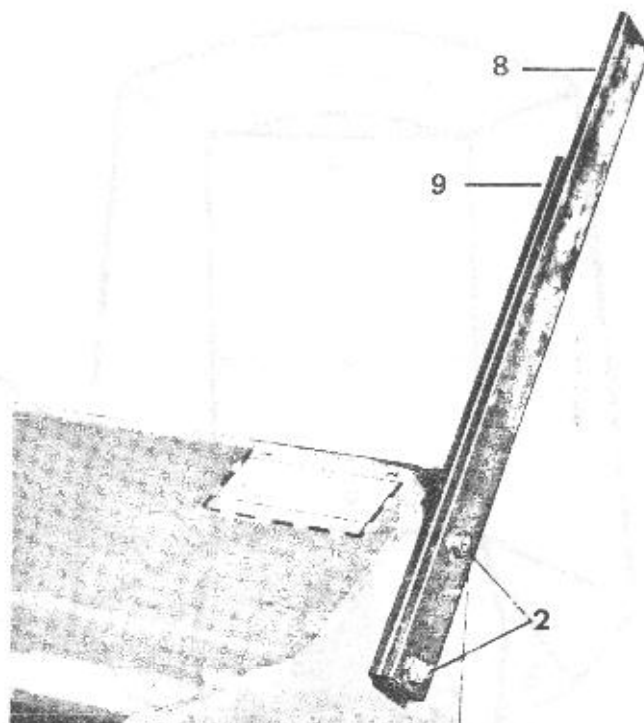

FIGURE 5
STEP 5; SEE FIGURE 5:
- A. Insert two 5/16" x 1" bolts through the DRIFT CUTTER (8), COUNTER-BALANCE (9) and then the blower housing. Add flat washers, nuts and tighten.